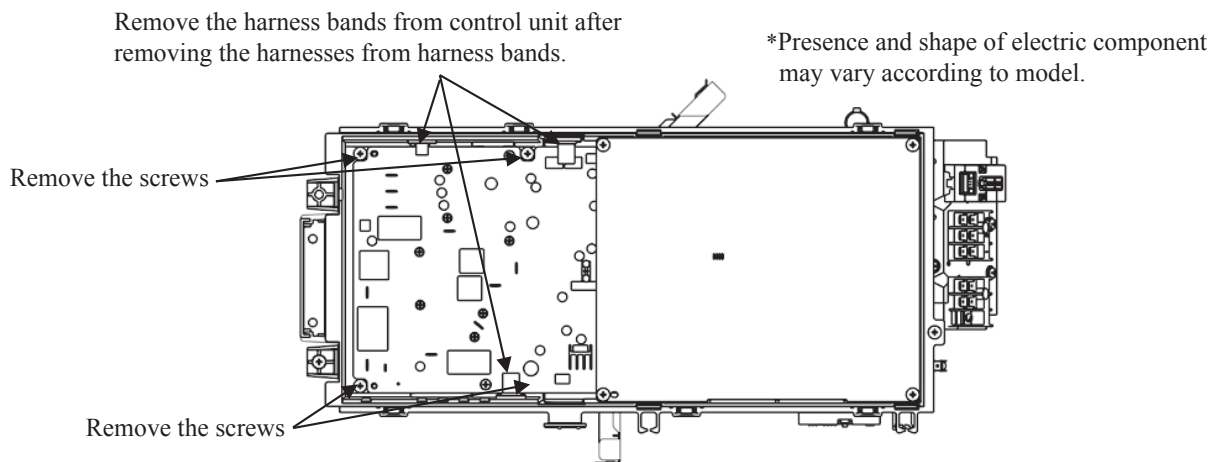

Fig.3 Target places where harness bands and screws are removed
- 4) Remove the harness bands (3 places) from the control unit, then remove the fixing screws (4places) from the radiator. (Refer to Fig.3.)